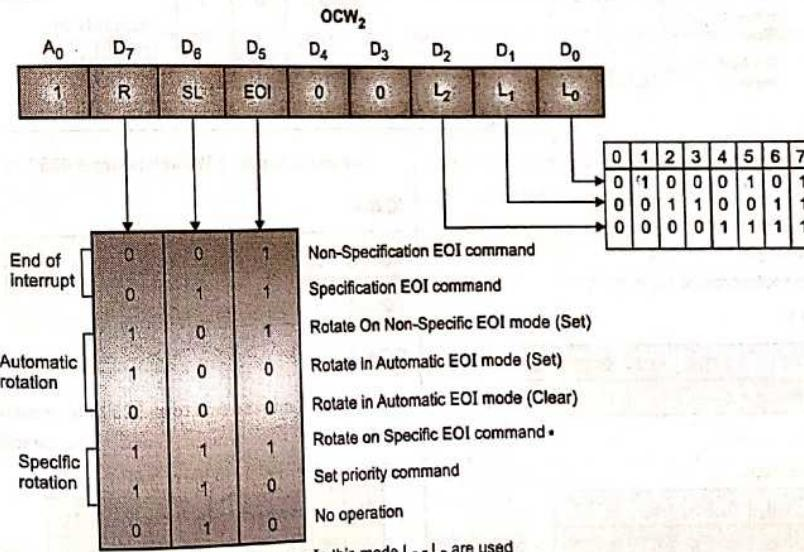

Fig. 8.6.5 : OCW2 Format
- R, SL and EOI (D₇ to D₀) : These bits indicate different commands programming for 8259. The table for the different commands is shown in the Fig. 8.6.5.